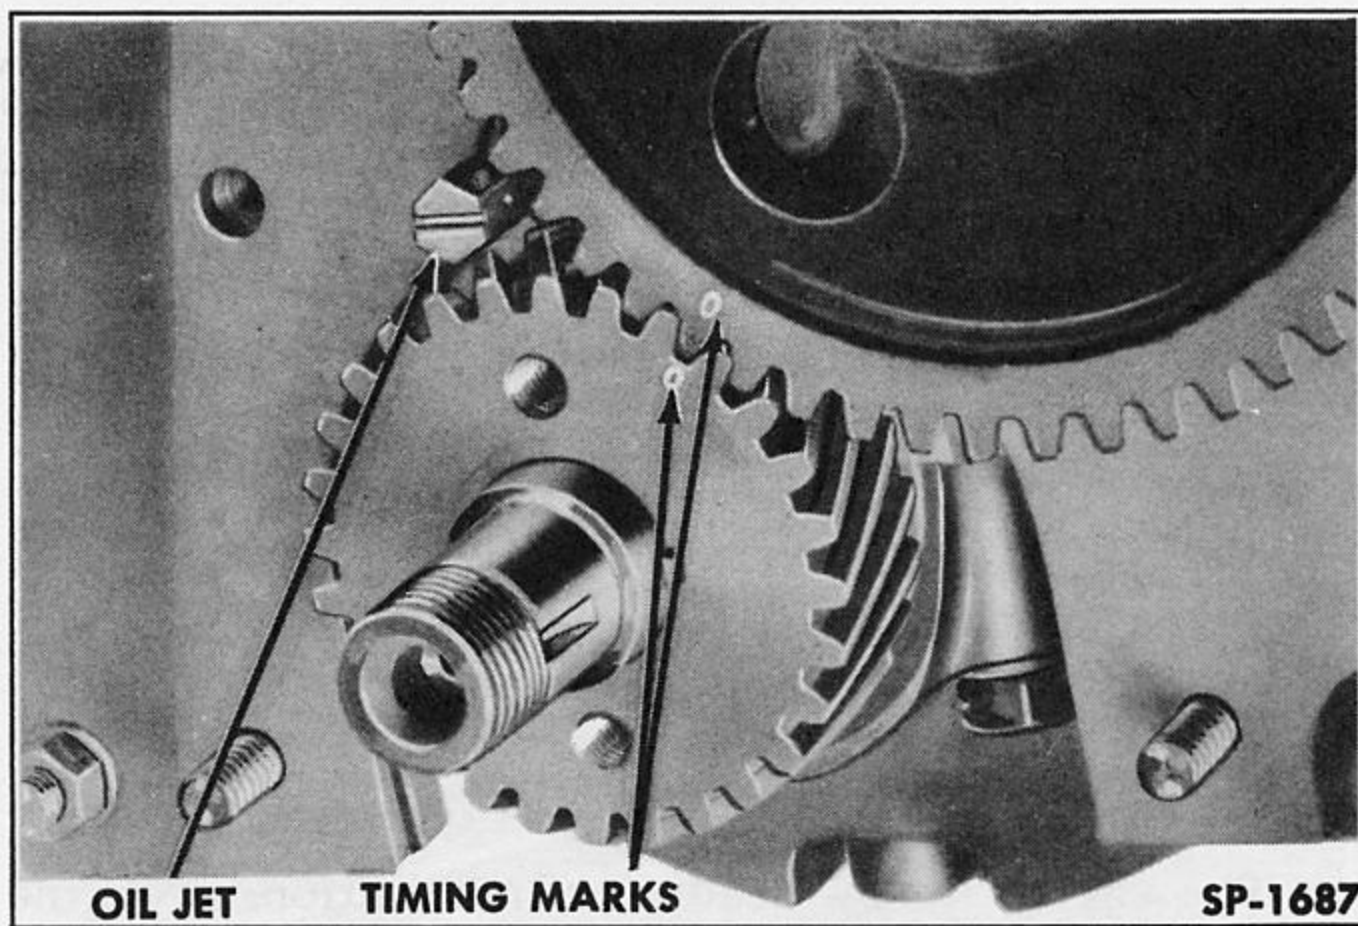

Fig. 57—Valve Timing—6 Cylinder Shown
3. Place spacer, thrustwasher, key and timing gear on crankshaft. Timing gear teeth must be meshed so timing marks will align as shown in Fig. 57.
1. If timing gear oil jet was removed, install it so oil stream hits crankshaft gear (see Fig. 57).